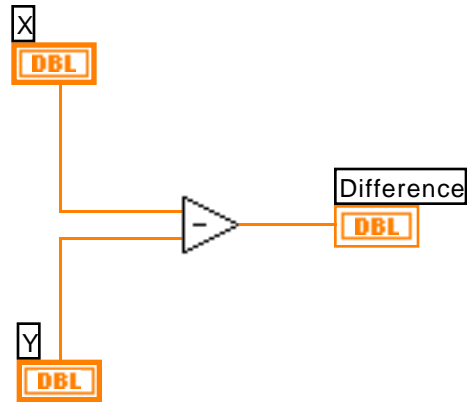

Figure 3-6. Subtract Operation in LabVIEW
8. Before continuing, you need some background. Math operations are programmed using triangular icons. All operations used here are binary, meaning they have two inputs. For example, the subtract icon in Figure 3-6 has two inputs on the left and one output on the right. To subtract Y from X (as shown below), you connect **X** to the upper left corner and **Y** to the lower left corner. The difference (answer) is then available at the right corner.